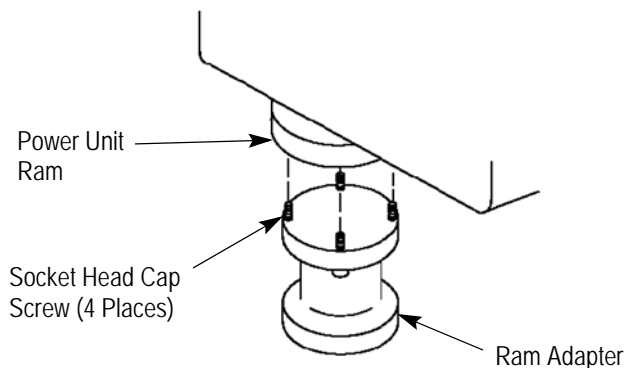

Figure 4
3. Attach the adapter kit ram adapter to the ram using the four 6-32 socket head cap screws. See Figure 4.